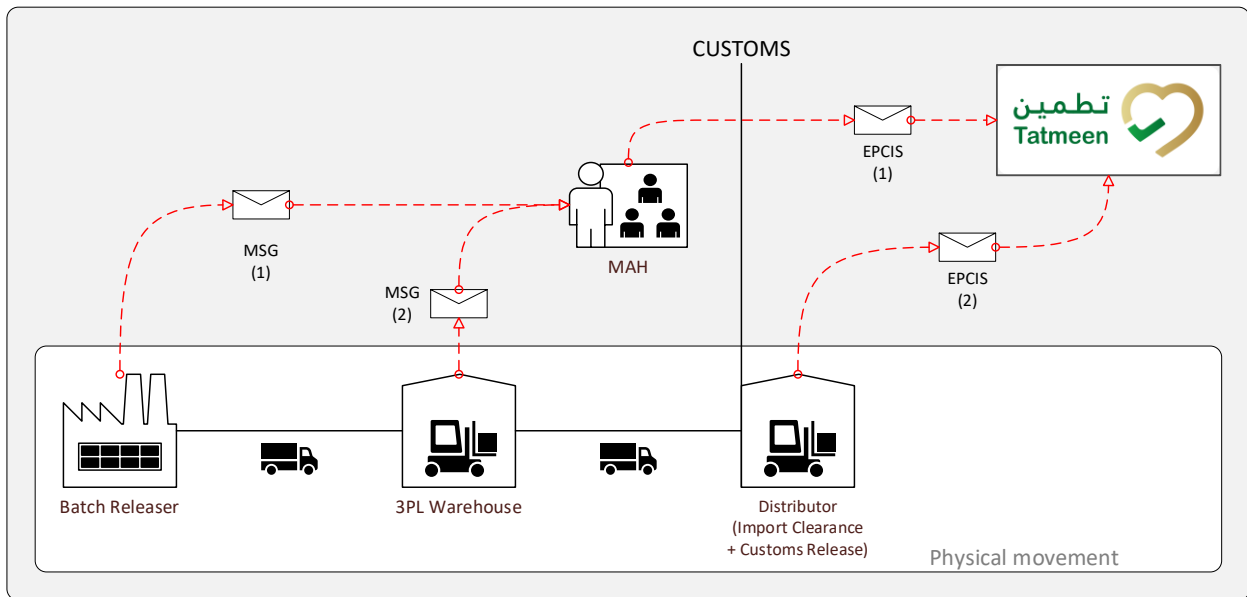
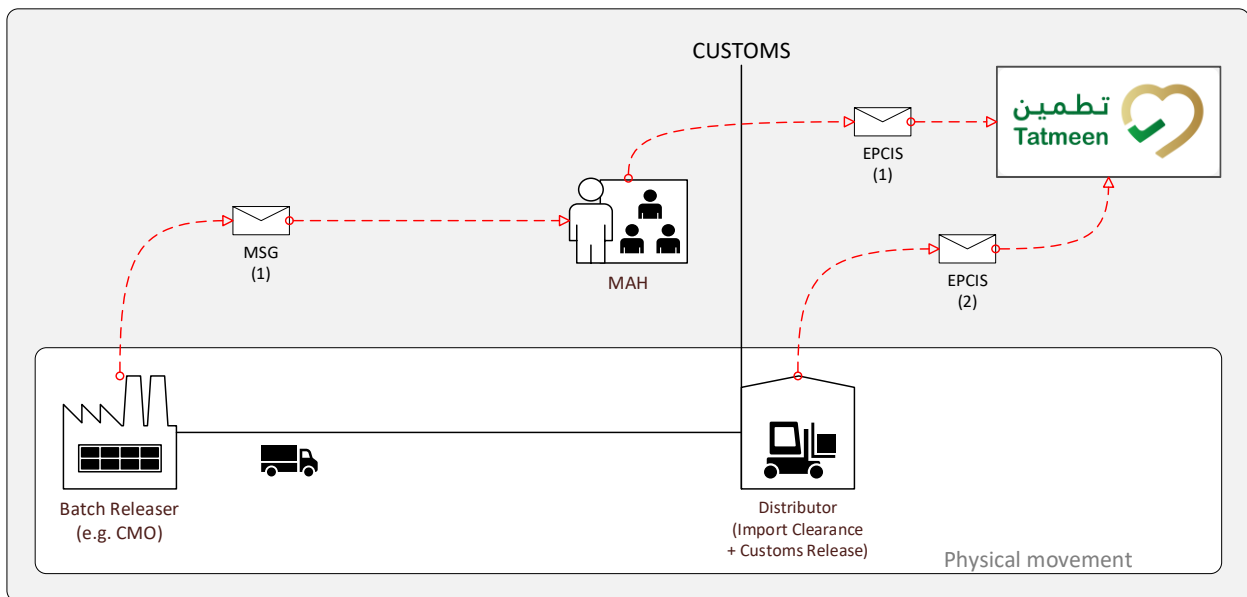

Figure 2 Importing Registered Drugs from International Manufacturers Using 3PL
Figure 3 Importing Registered Drugs from International Manufacturers Directly to UAE Distributor
- Registered Drug Importation using 3PL partners (Figure 2).
- Registered Drug Importation directly to Distributor (Figure 3).
This outline refers to both Figure 2 and Figure 3, above.
2. The Batch Releaser manufactures serialised products and maintains their own records regarding serialised product items, the parent / child relationships of any aggregated product hierarchies; and shipping of those items to another entity. These record details are required to meet the message specifications in Section 3. The foreign manufacturer must also share these records with their relevant MAH prior to importation of those product items into the UAE (see “MSG (1)” in Figure 2 / Figure 3).
3. Any foreign supply chain partner involved with physical storage or movement of serialised product items prior to importation must maintain their own records regarding serialised product items, the parent / child relationships of any aggregated product hierarchies; and shipping of those items to another entity. These record details are required to meet the message specifications in Section 3. The foreign manufacturer must also share these records with the relevant MAH prior to importation of those product items into the UAE (see “MSG (2)” in Figure 2).
The MAH must send a single EPCIS message (“*EPCIS (1)*” in Figure 2 / Figure 3) each containing the Shipping Import Permit reference; commissioning, aggregation and shipping event for the full/partial shipment.
6. The MAH must notify the Distributor once the importation EPCIS message is successfully sent to the Tatmeen solution. The Distributor must then send an EPCIS message (“*EPCIS (2)*” in Figure 2 / Figure 3) to the Tatmeen solution to receive the goods into the UAE for customs clearance and federal release.